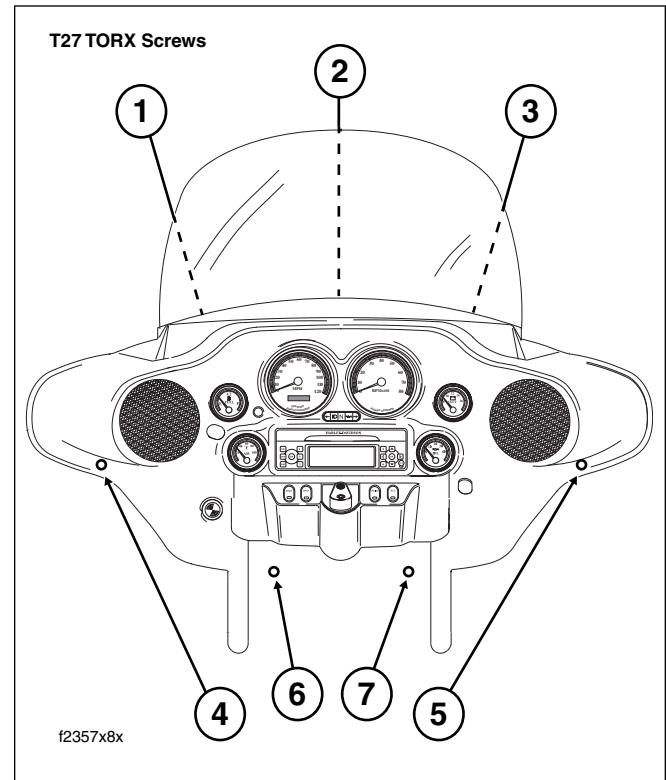

Figure 2-162. Outer Fairing TORX Screw Locations
- a. Standing at the front of the motorcycle, loosen the three T27 TORX screws (with flat washers) just below the windshield. See Figure 2-162.
- b. Start the three T27 TORX screws (with flat washers) just below the windshield. See Figure 2-162.